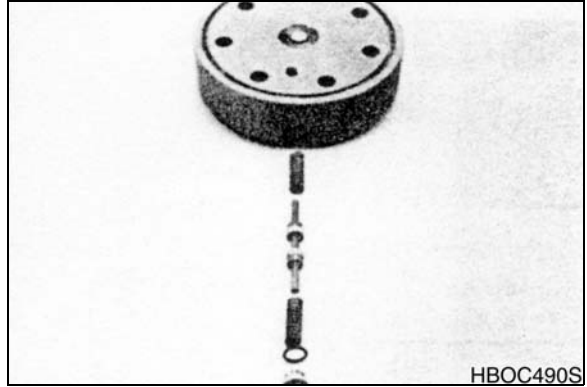

Figure 63
21. If shuttle valve components items #21, #22, #23, #24 were removed from the end cover (2) turn a plug (21) with a new O-ring (22), loosely into one end of the valve cavity in the end cover. Insert a spring (23) the valve (24) and the second spring (23) into the other end of the valve cavity. Turn the second plug (21) with a new O-ring (22) loosely into the end cover valve cavity. 3/16 inch allen wrench required. See Figure 63.